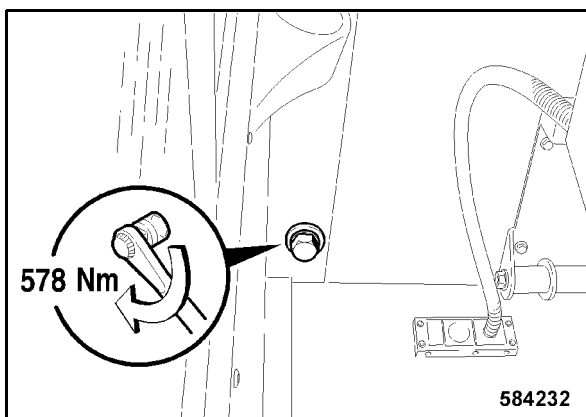

Fig. 215
- Tighten the rear inside fastening screw on the right hand side with 578 Nm (Fig. 215).